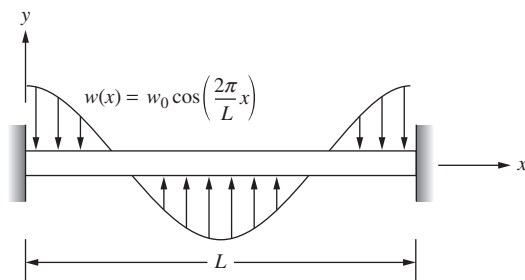

Figure P8.32 A fixed-fixed beam subjected to a sinusoidal distributed load.
- 8-32.** A fixed-fixed beam is subjected to a sinusoidal distributed load, as shown in Fig. P8.32.